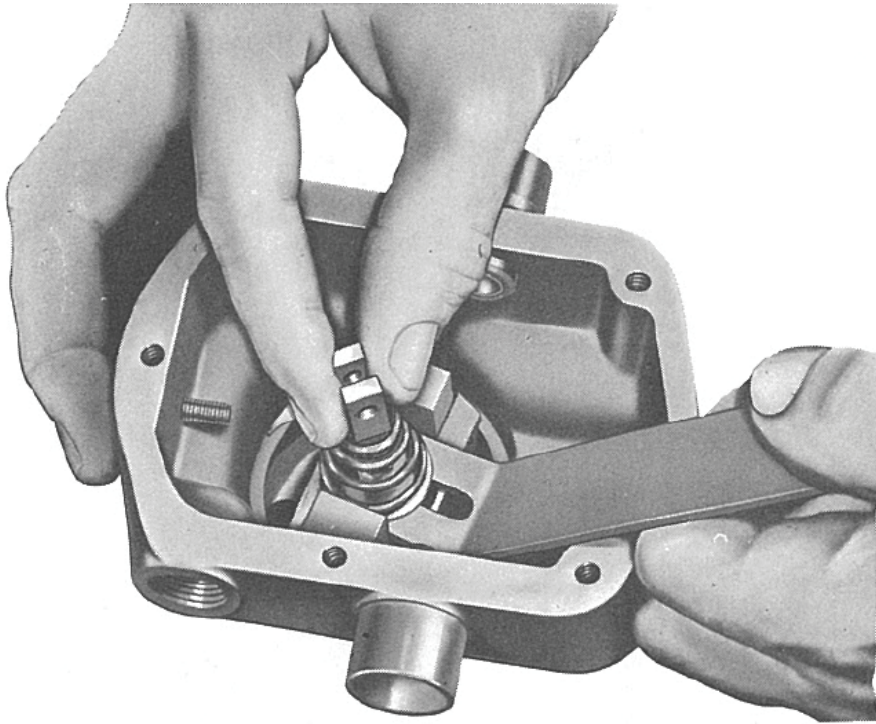

Figure 3-4. Speeder Spring Removal
8. Remove the speed adjusting shaft (52) along with the speed adjusting lever (51), only if necessary. To facilitate correct assembly, the speed adjusting shaft end is slotted in line with the cotter pin hole.
9. Remove power piston stop screw (items 3, 4, and 5).
10. Lift out power piston (16), buffer piston (14), buffer springs (13 and 15), spring seat (12), and snap ring (11) as an assembly.
12. Use pilot valve wrench (Woodward part no. 370109) and wedge it between the coils of speeder spring assembly (42) and spring seat (40). Hold the spring fork and bend spring towards open end of bottom coil. At the same time, turn spring to disengage coil from seat lip. See Figure 3-4.